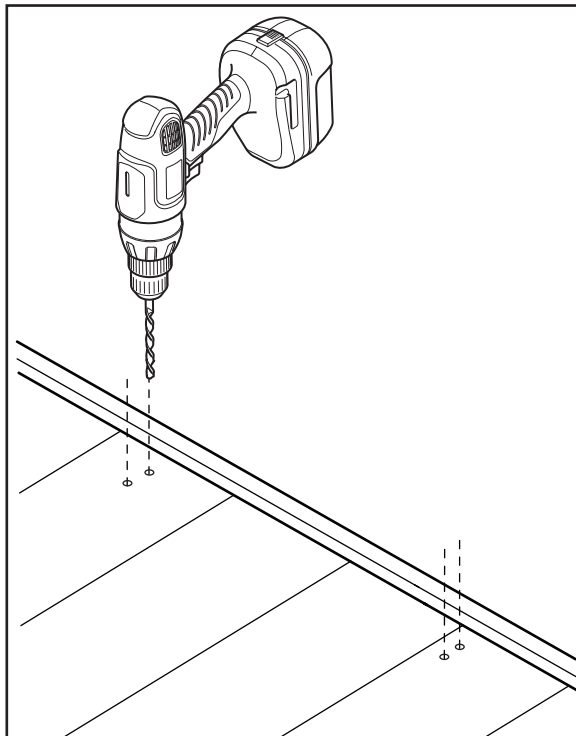

Figure 2
4. Using a drill with an 1/8" bit, drill each mark, being careful to not drill through the door (Figure 2).